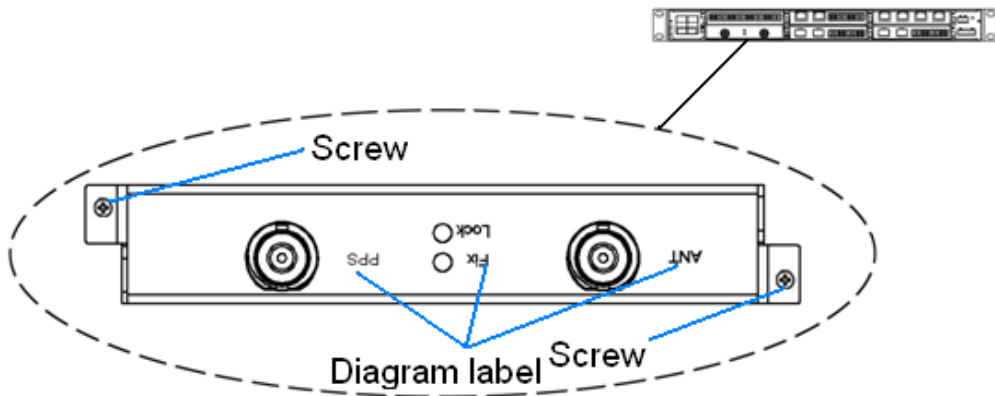

Figure 6 Module Installation 4
Step 2: Secure the module into the switch chassis with two screws (M2.5x5), as shown in Figure 6 .